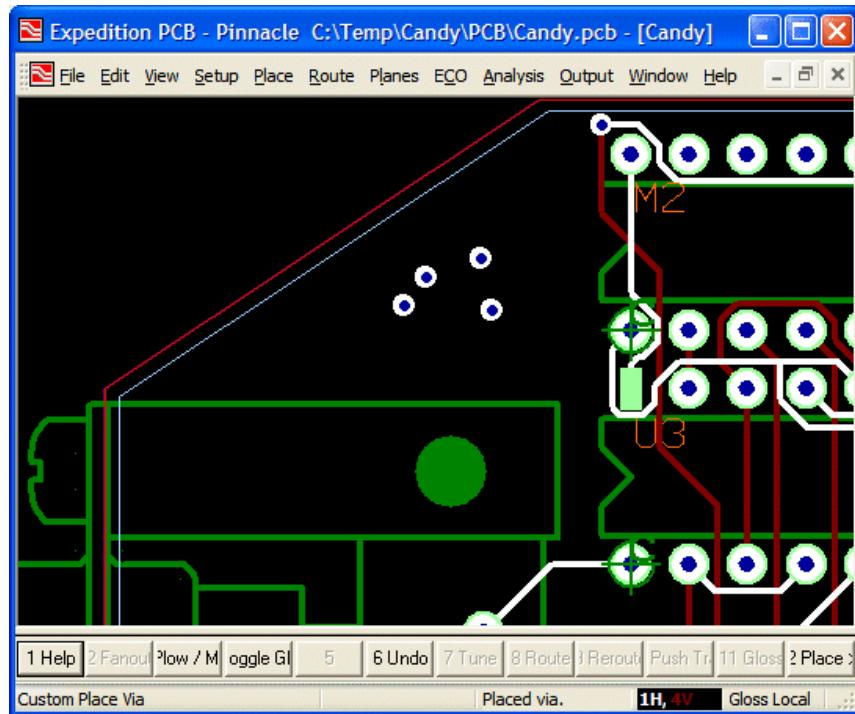

Figure 12-21. Zoom in on a blank area of the design.
- 5) Click your mouse cursor a few times in the blank area of the design and observe a new via appear on each click as illustrated in Figure 12-21.